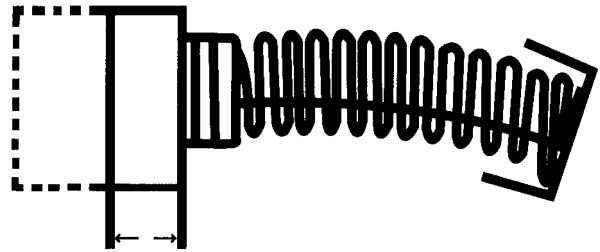

Figure 10 – Carbon Brush Wear
1. Replace carbon brushes when they wear down to about 1/4" (6mm) or sparking will occur. Both brushes should be changed at the same time (Figure 10).